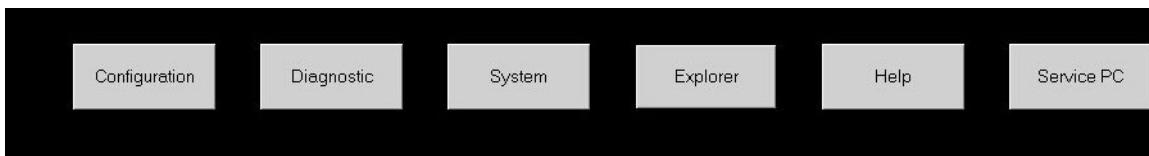

Fig. 9
- If the entry is accepted, the service window appears with the following menu bar (Fig. 9).